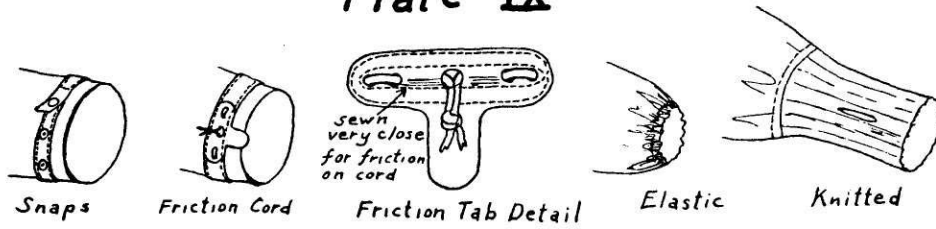

Fig. 1 Various Cuffs
7. Assemble the zipper door by sewing the zippers up the two side edges of one end part no. 2. Sew them so the zipper edge is even with the fabric edge for the first stitching and then roll the surplus fabric, or trim it off and top stitch with the second seam. See cross section detail Fig. 1. The ends of the zipper metal should be $\frac{1}{2}$ " short of the edges of the original end part. Cut vent part no. 4 and hem the bottom edge around a piece of $\frac{3}{4}$ " web. Stitch several times through the web. Sew this roughly over the peak of the zippers so the web bows out. The measured length of each side from zipper bottom to top corner of vent part should be 50" to 51".
A regular dressmaking shirt pattern in the proper size and of the general cut desired makes the best pattern for a wool shirt. A sport shirt pattern is more satisfactory than a dress shirt pattern. There should be fullness across the back to allow for plenty of arm freedom and the sleeves should be cut almost straight out from the body. Changes can be made easily in this pattern to allow for individual tastes in details. For instance, the shirt tails will probably be eliminated in favor of a square cut so the shirt can be worn outside the pants like a jacket on occasion. The slit at the cuff can be eliminated and an adjustable snap strap cuff added for versatility. (See Fig. 1, Plate IX.) Pockets can be installed to suit individual preferences and elbow patches for long wear can be added.